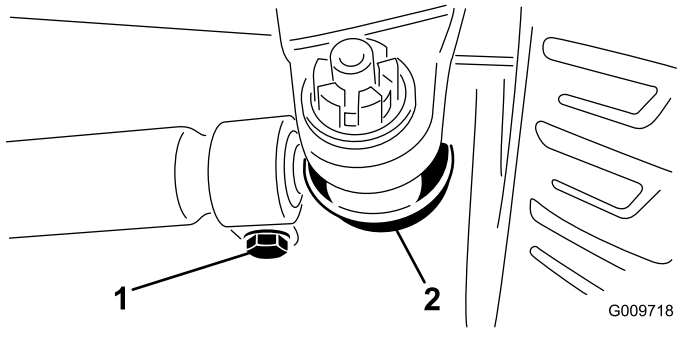

Figure 73
2. To adjust, remove the cotter pin and nut from either tie rod ball joint (Figure 73). Remove tie rod ball joint from axle case support.
3. Loosen the clamps at both ends of the tie rods (Figure 73).
4. Rotate the detached ball joint inward or outward one (1) complete revolution. Tighten clamp at loose end of tie rod.
5. Rotate the entire tie rod assembly the same direction (inward or outward) one (1) complete revolution. Tighten clamp at connected end of tie rod.